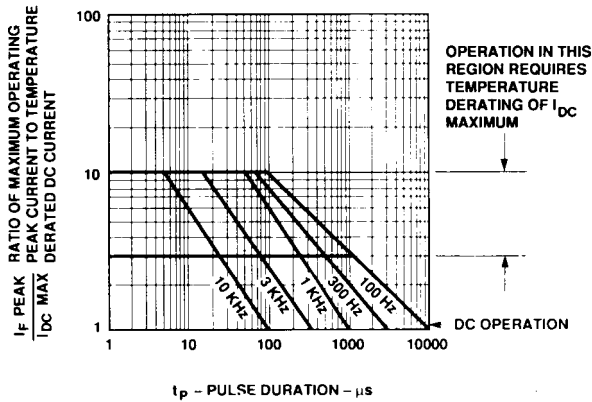

Figure 7. Maximum Tolerable Peak Current vs. Pulse Duration - HER, Orange.
3. See Figure 7 to establish pulsed conditions.